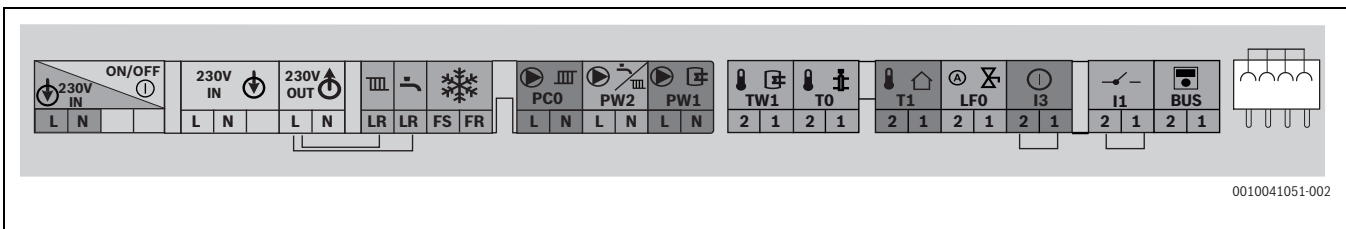

Fig. 27 Terminal strip for external accessories
- ▶ Connect the cable to the terminal strip for external accessories (→ Fig. 27).